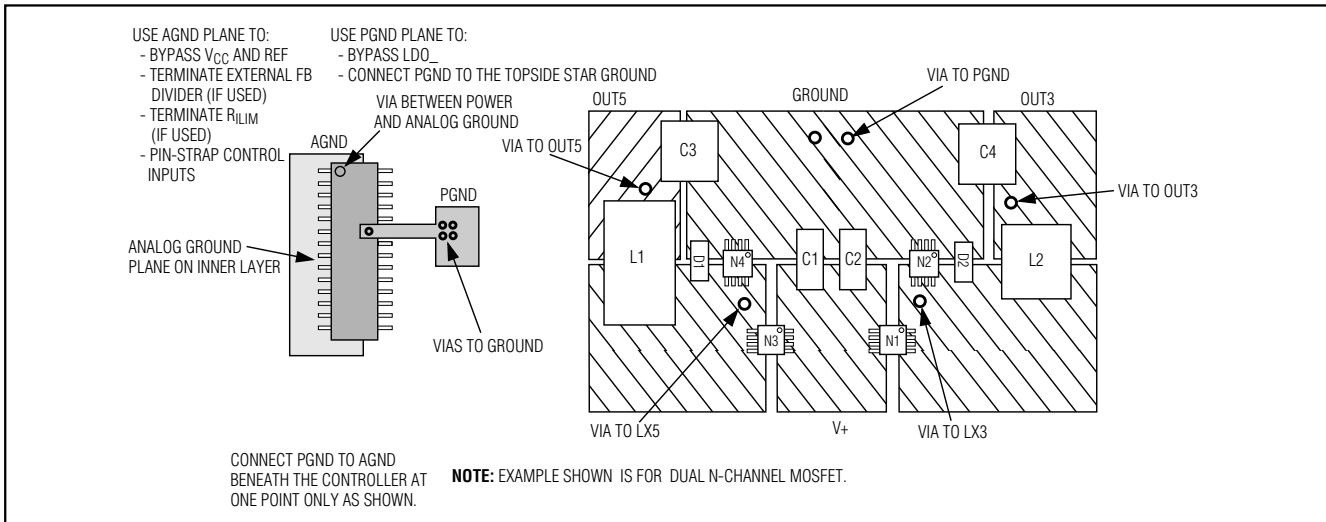

Figure 13. PC Board Layout Example
Careful PC board layout is critical to achieve minimal switching losses and clean, stable operation. This is especially true when multiple converters are on the same PC board where one circuit can affect the other. The switching power stages require particular attention (Figure 13). Refer to the MAX1999 Evaluation Kit data sheet for a specific layout example.
- 4) Make the DC-DC controller ground connections as follows: near the device, create a small analog ground plane. Connect the small analog ground plane to GND (Figure 13) and use the plane for the ground connection for the REF and VCC bypass capacitors, FB dividers, and ILIM resistors (if any). Create another small ground island for PGND, and use the plane for the V+ bypass capacitor, placed very close to the device. Connect the AGND and PGND planes together at the GND pin of the device.